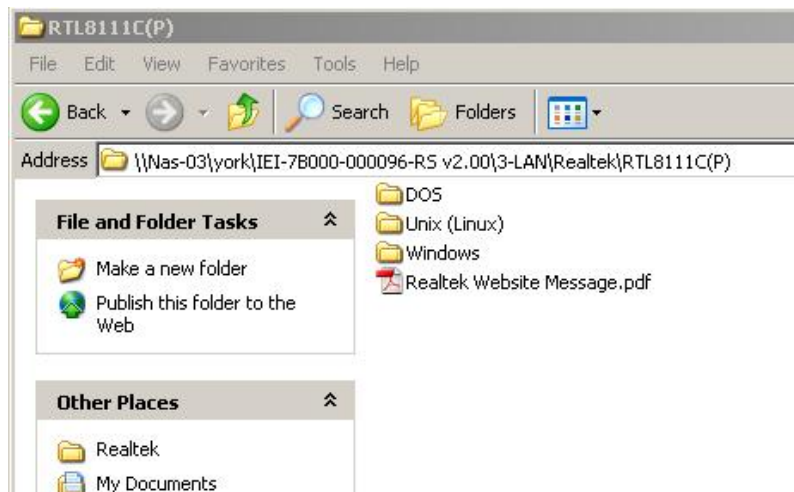

Figure 6-18: Location Browsing Window
Step 8: Select the proper OS folder under the “X:\XX” directory (Figure 6-18) in the location browsing window, where “X:\” is the system CD drive and “XX” is the folder name.